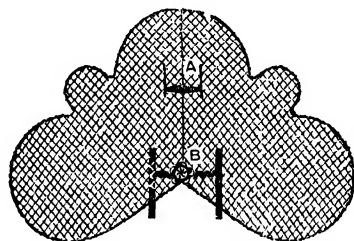
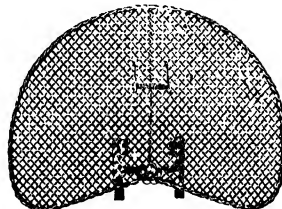
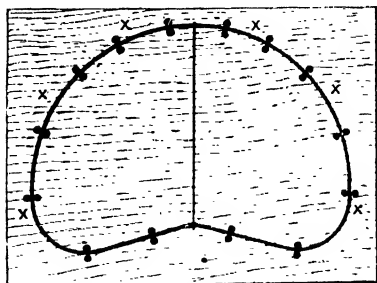

Fig. 614.—Fancy Design for Fireguard.
Fig. 615.—Circular Fireguard.
Fig. 617.—Board for Making Fireguard.
**Fireguards.**—Figs. 614 and 615 show two designs for drawing-room or parlour fireguards, the first being a fancy design and
2 ft. 6 in. wide and 1 ft. 10 in. deep, the pattern should be drawn on a stout piece of board (see Fig. 617). Or the frame may be laid on the board and held by a staple or
two, while some pegs or nails are fixed round the frame to hold it in position. The small dots round the frame in Fig. 617 represent the pegs. In patterns such as Fig. 615, which are simple, only a few pegs will be required, but in patterns of a more elaborate style, such as Fig. 617, it will be found necessary to have plenty of pegs to keep the frame from being pulled out of shape when the ends of the mesh are being turned over. The frame should fit tight between the pegs. Having made the rim to the pattern required, it should be fixed to the mesh work. The projecting ends of the mesh work are turned over the rim, and then cut off close to it. It will be found that the mesh, when being turned over the rim, will, if care is not taken, pull this out of shape. To obviate that, the mesh should be turned over at irregular intervals, say at x (Fig. 617). The turning over of
two or three wires at these points will keep the frame in shape, but practice alone will show the best places to turn the mesh over. If necessary, a twisted edge of wire may be fixed round the edge of the guard (see Fig. 615), to make it more ornamental. This edge is made out of wires twisted together and fixed by tying with thin wire to the frame. A handle as at x (Fig. 614) must be made and fixed to lift the guard. The hanger b (Fig. 614) is made of pieces of flat iron (see Fig. 618), and is fixed in position either by riveting or tying. The small rosettes shown in Figs. 614 and 615 are simply for ornament, and may be any small stamping. The quantities given are for guards 2 ft. 2 in. by 1 ft. 6 in., the extra material in the mesh being to allow for turning over. The frames may be made of No. 10 B.W.G., or any other size to suit the maker, but the stronger the frame, the better and easier the job. If a cheap guard is required, small-